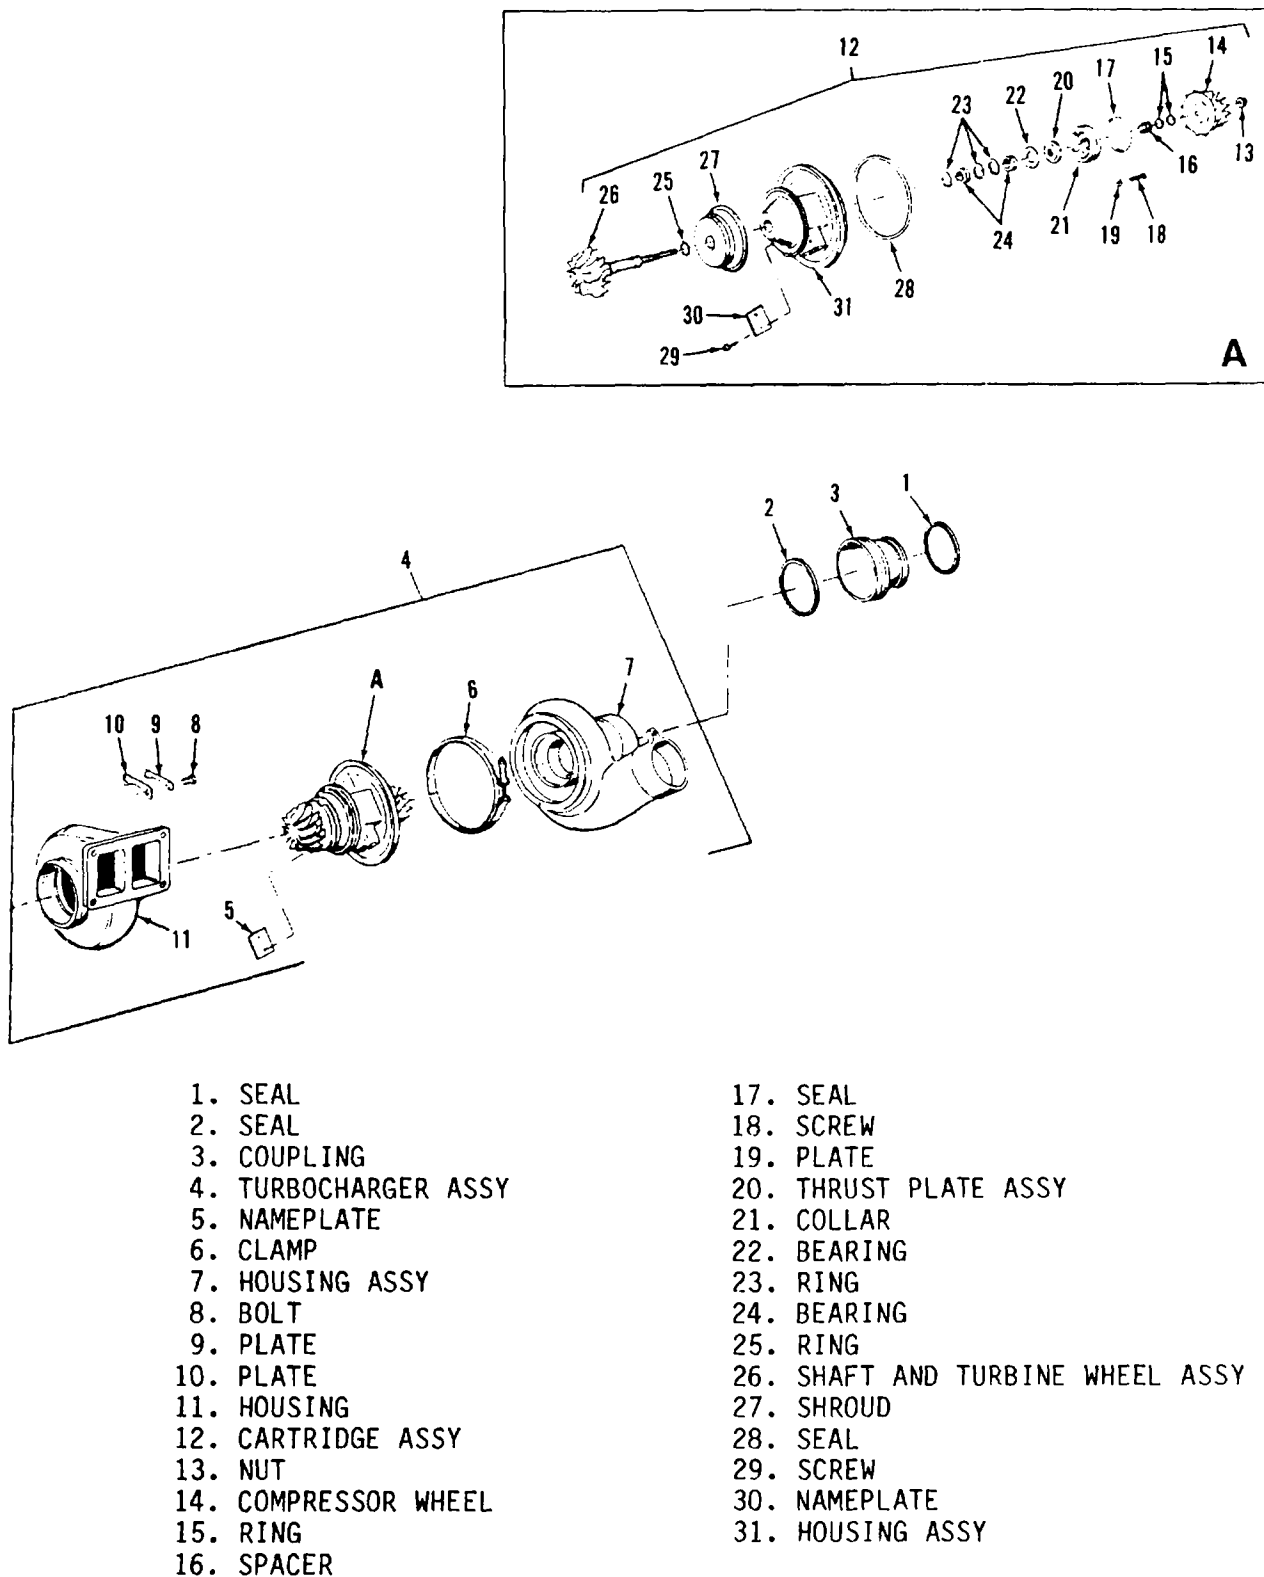
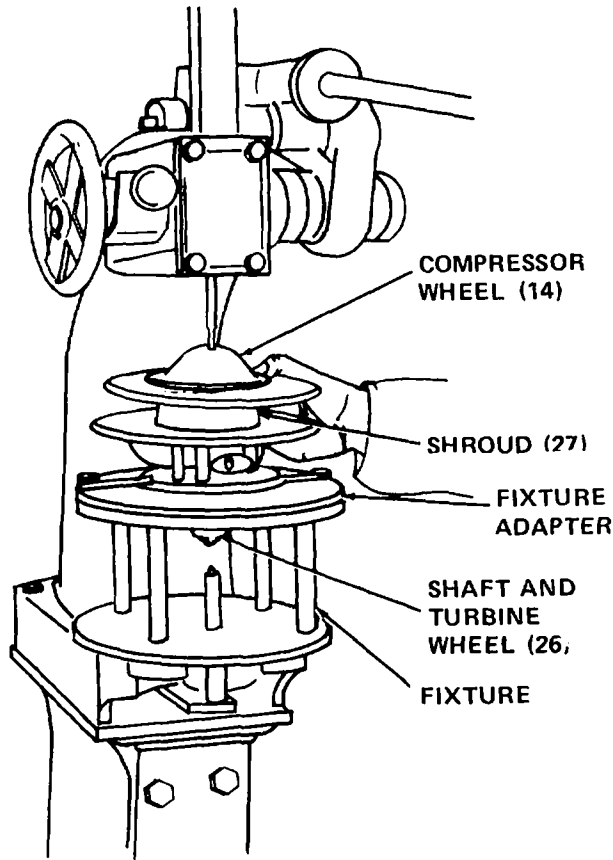
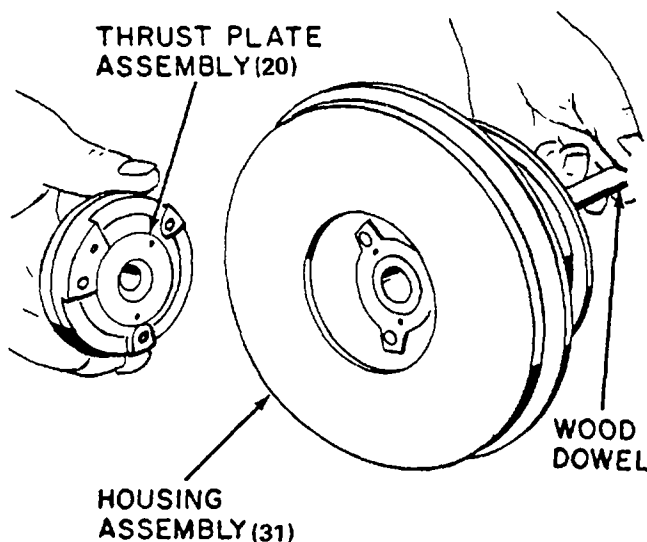

Figure 11-1. Turbocharger, Exploded View
Figure 11-2. Pressing Shaft and Wheel Assembly
Figure 11-3. Thrust Plate, Removal
c. Remove air cleaner seals (1 and 2, figure 11-1) and coupling (3) from the turbocharger assembly (4).
d. Measure wheel (14) end clearance. End clearance must be 0.006 to 0.011 inch (0.152 to 0.279 mm). If the clearance is excessive, or if either the shaft and wheel assembly (26) or wheel (14) has rubbed against the housing assembly (31) or shroud (27), then either the bearings (24) and/or thrust bearing (22) and collar (21) must be replaced.
e. Punch mark housing assembly (7), housing assembly (31), and housing (11) to ensure correct positioning upon reassembly.
f. Remove nameplate (5) only if damaged.
g. Remove clamp (6) and remove housing (7).
h. Remove bolts (8), plate (9), and plate (10) from housing (11).
i. Remove cartridge assembly (12) from housing (11).
j. Remove nut (13).
k. Bolt fixture adapter to fixture (see figure 11-2).
l. Thread supporting screw into base of fixture to contain turbine wheel and shaft when pressed from wheel (14). Leave a space between end of screw and turbine wheel. Approximately 1-1/2 inch (12.7 mm) of shaft and turbine wheel movement is required to free them from wheel.
m. Position compressor end of housing in a hot oil bath so that only the wheel (14) is immersed.
o. Remove unit from oil bath and press shaft and turbine wheel (26) as a unit from wheel (14) (see figure 11-2).
p. Remove rings (15), spacer (16), and seal (17).
q. Remove screw (18) to remove plate (19).
r. Remove thrust plate assembly (20) and collar (21) using the wooden dowel (see figure 11-3).